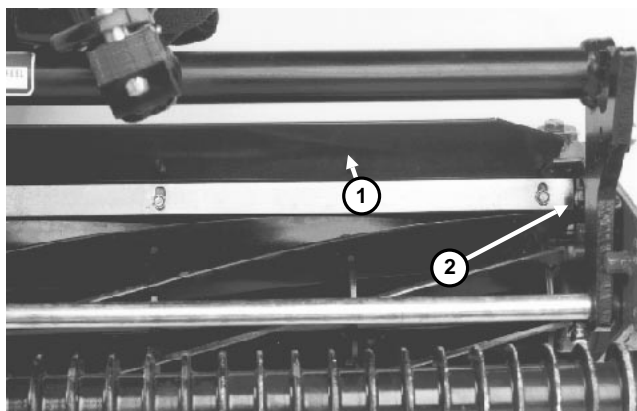

Figure 13
2. Loosen capscrews and nuts securing shield to each side-plate, adjust shield to correct height and tighten fasteners (Fig. 13).